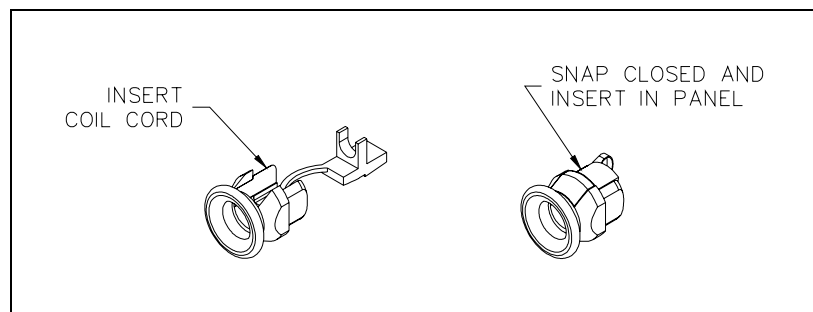

Figure 2. Strain Relief Bushing Assembly
5. Insert the plain end of the coil cord into the strain relief bushing and close the bushing. See Figure 2.
5. Insert the plain end of the coil cord into the strain relief bushing and close the bushing. Refer to Figure 2 on page 3.